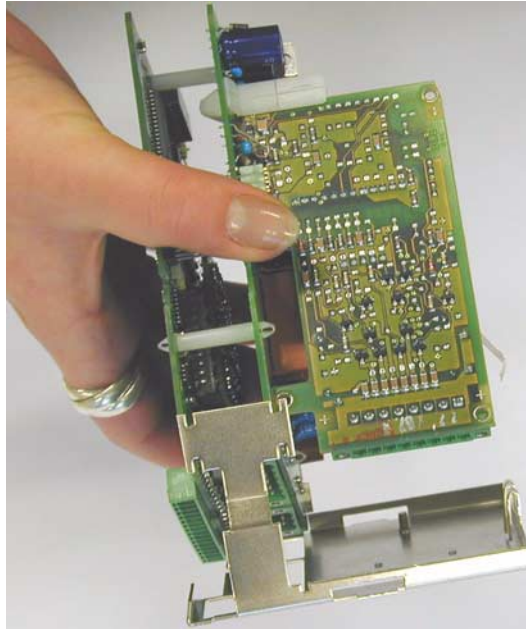

Fig.6-4 Unfixed clamp
4. See in the Fig.6-4 the controller with unfixed rear wall.